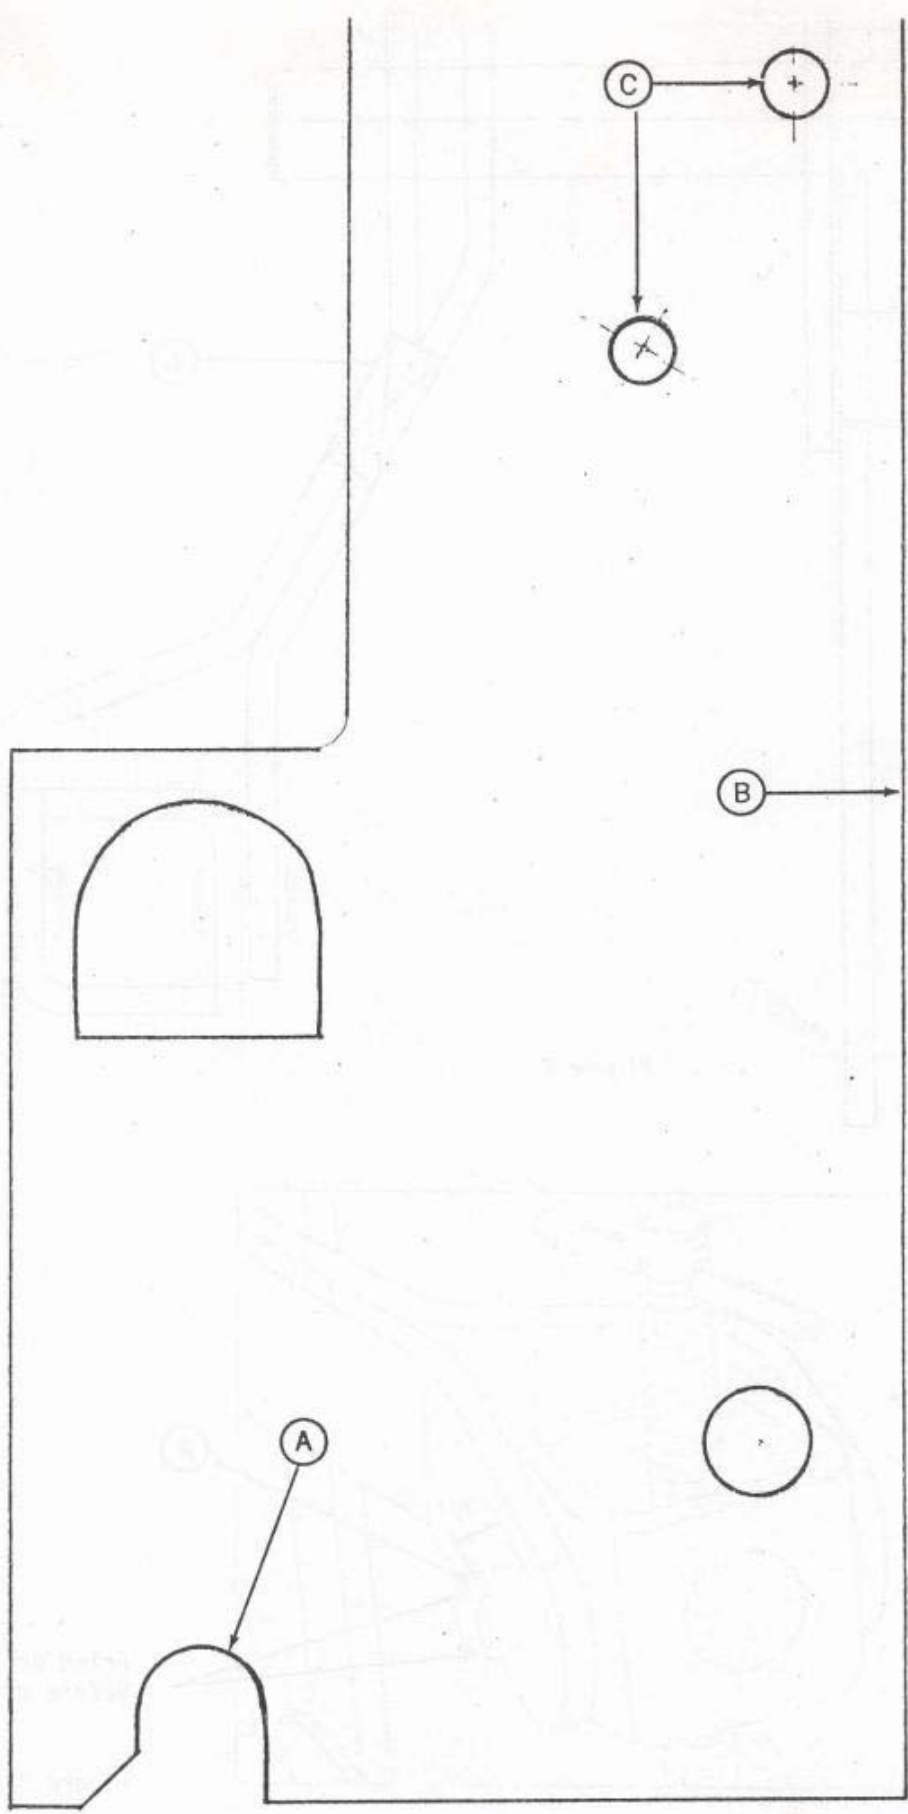

Figure 1
2. Cut out the template (figure 1) and place it on the outside of the left side plate of the Hitch Frame.
3. Line the areas of the template marked (A) and (B) up with the side plate and scribe a line on the side plate around the cutout portion in the upper left corner. Center punch the two holes marked (C) on the template. The centers must be 1.81 inches apart.